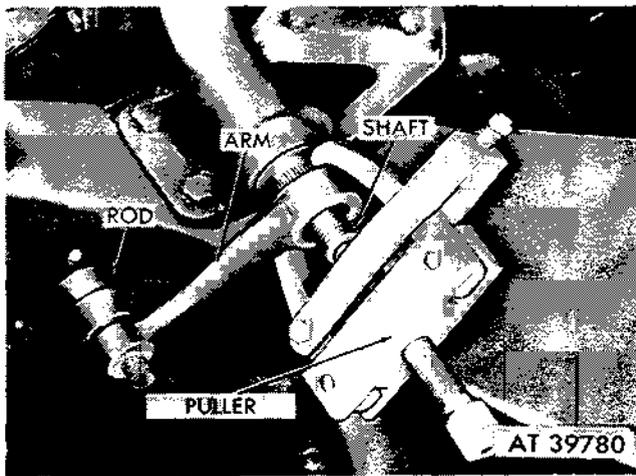

Figure 2-351. Remove Pitman arm using puller.
(3) Use suitable puller and remove Pitman arm from sector shaft and from idler arm rod (fig. 2-351).
b. *Installation.* Refer to removal operations (3) back to (1). Before installing Pitman arm, rotate steering wheel to maximum turn. Reverse rotation approximately $15/6$ turns until one spoke of steering wheel is at the bottom and is in line with centerline of steering column. Point wheels in straight ahead position. Point Pitman arm straight ahead, align fluted serrations on arm and sector shaft and install Pitman arm. Tighten steering Pitman arm to sector shaft nut to 100-110 lb-ft. torque. Tighten nut on ball socket stud to 35-45 lb-ft. and install new cotter pin.